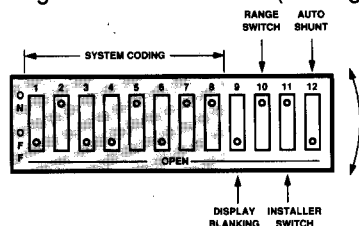

Figure 14. Switches Set for Channel Entry Mode
8. Set the AUTO-SHUNT switch (key #12) to ON, then OFF. This will erase the memory and set up the SS-32T for programming with the transmitters (see Figure 14).